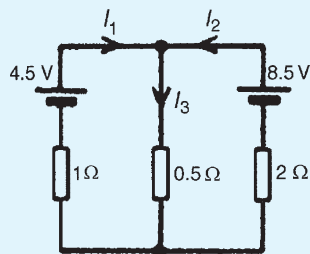

Figure 13.25
1. Use the superposition theorem to find currents  $I_1$ ,  $I_2$  and  $I_3$  of Fig. 13.25.